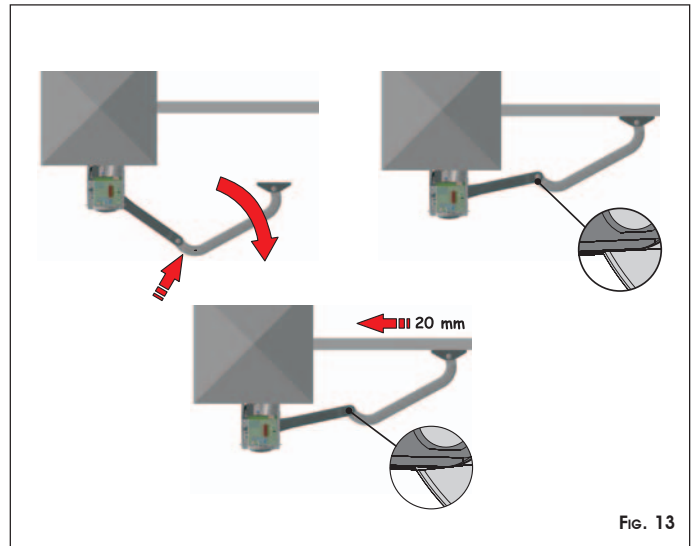

Fig. 13
- ⑧ Align the arms you have just assembled, pushing in the central zone until they stop, see Fig. 13 ref. ①.
- ⑨ Rest the front bracket on the leaf, Fig.13 ref. ②.
- ⑩ Move back the front bracket by about 20 mm and mark the securing holes, Fig. 13 ref. ③.
- ⑪ Secure the bracket in the established position using two M8 screws.
- ⑫ Move the bracket by hand and - with the leaf in closing position - make sure that the two arms do not impact each other, as shown in Fig. 13 ref. ②.
- ⑬ Take the operator back to the work position - see paragraph 7.